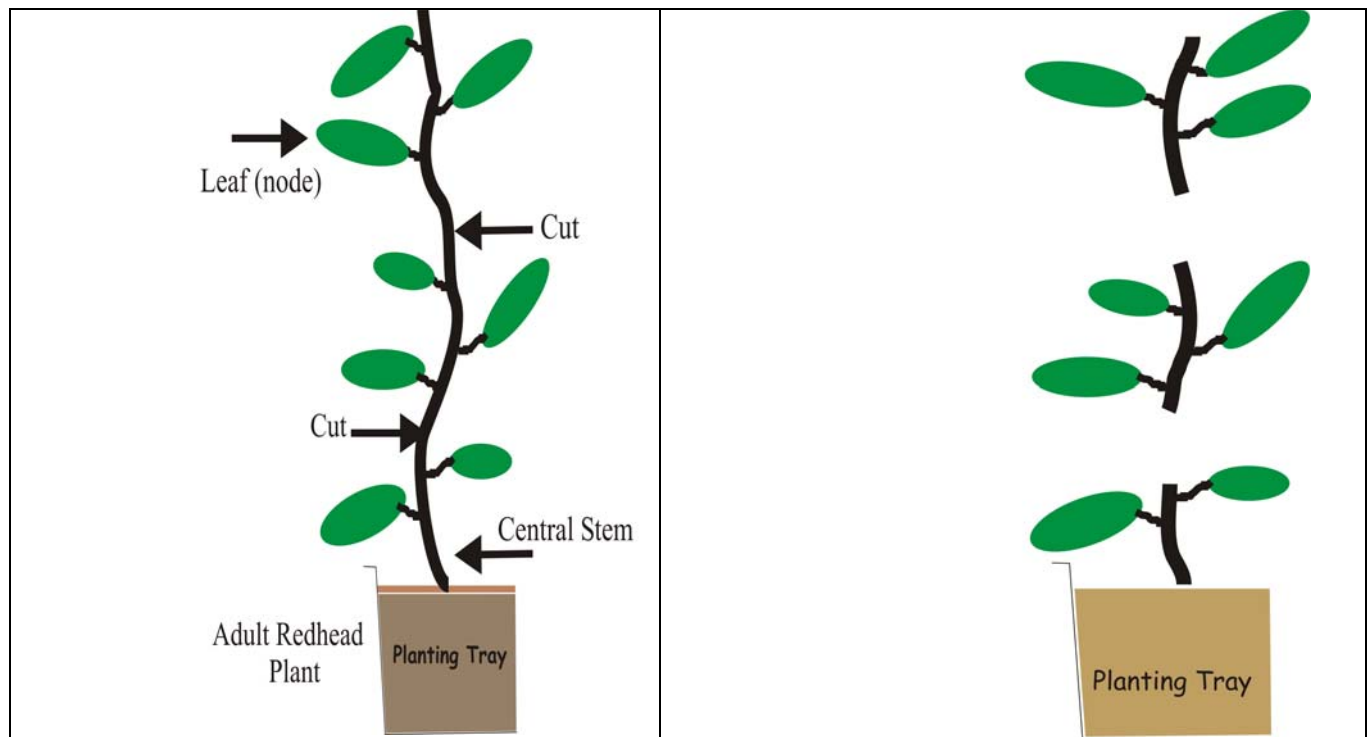

Fig. 5 - Micro-propagating redhead grass
1. When most of the plants in the parent tray have 8 leaves, it will be micro-propagation time. It will take several weeks for the plants to be large enough to micro-propagate. Lift each adult plant from the parent tray one at a time (without pulling the plants out of the sediment), holding them upright from the top of the central stem, and cut into segments of three leaves. Make sure to make the cut from the bottom and just above the leaf (node). Leave two leaves (nodes) on the rooted parent plant (Fig. 5).